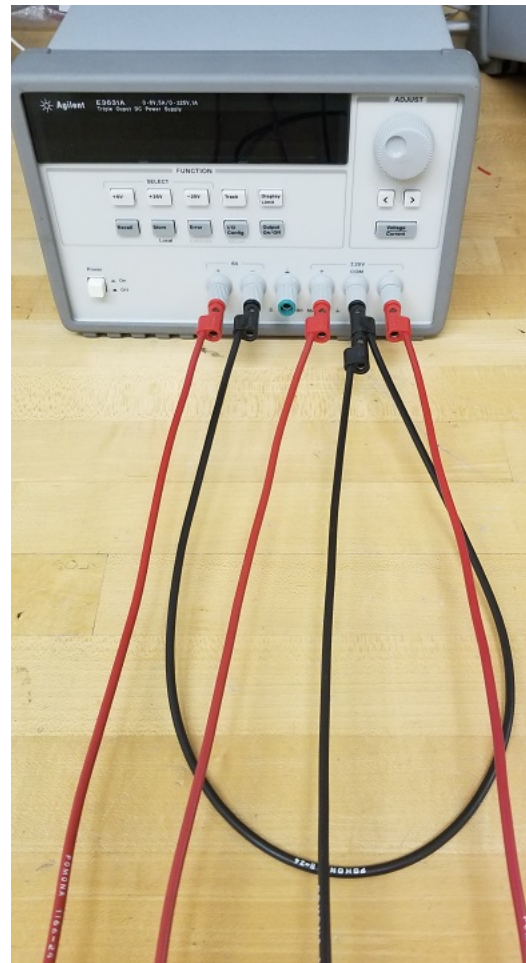

Figure 5: Triple DC voltage (+15, -15, -6) configuration.
- 1.7 Notice (Figure 5) that the black cable feeding in to the COM terminal is connected to the +6V output, and that the red cable is grounded to the COM terminal (i.e. the black and red cables for the 6V output terminals are switched).
- 1.8 Be sure to keep the 15V output terminals exactly as shown in Figure 5.